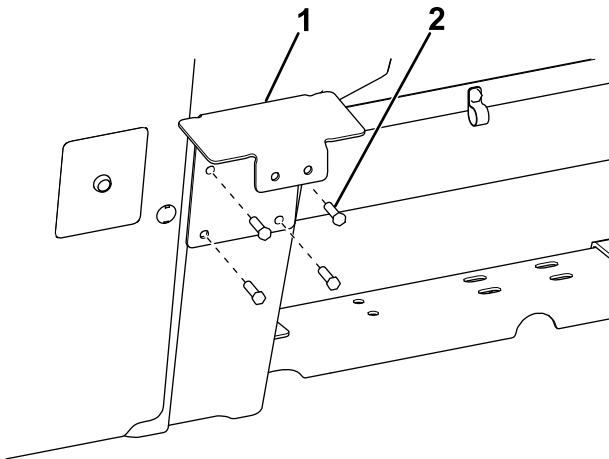

Figure 33
1. For Forge 2.0 spreaders, continue to step 4. For VBX spreaders, line up the filter bracket with the edge of the rear cover and mount it to the hopper with 4 bolts (5/16 inch) as shown in Figure 33.